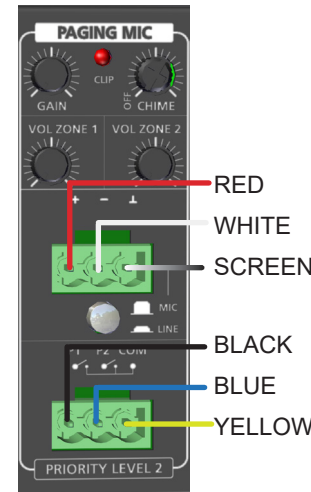

Figure 4a. MICPAT-2 Wiring
1. Connect the MICPAT-2 to the PREZONE2 as shown in Figure 4a.